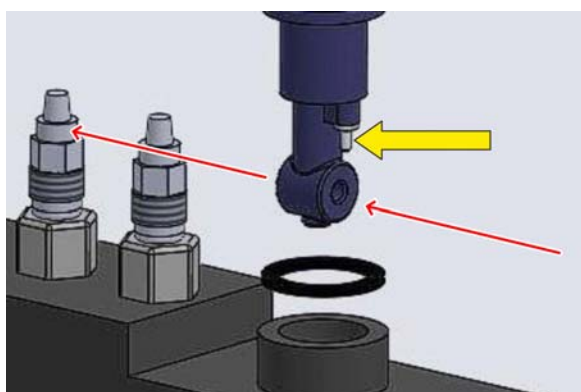

Figure 7-20: Inserting the conductivity sensor
- Check the flow direction. It is indicated by a red arrow in figure 7-20.